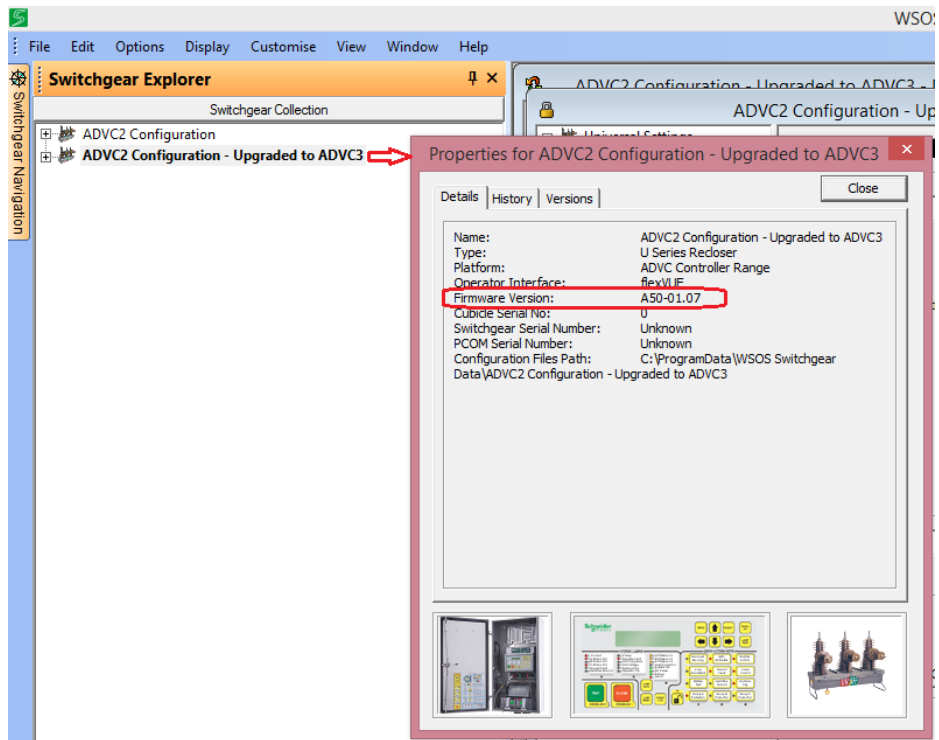

Figure 10: Upgraded Configuration
10. On confirmation, the new configuration file will be saved for the ADVC3 controller, as shown in Figure 10. This is now ready to be written to the controller.